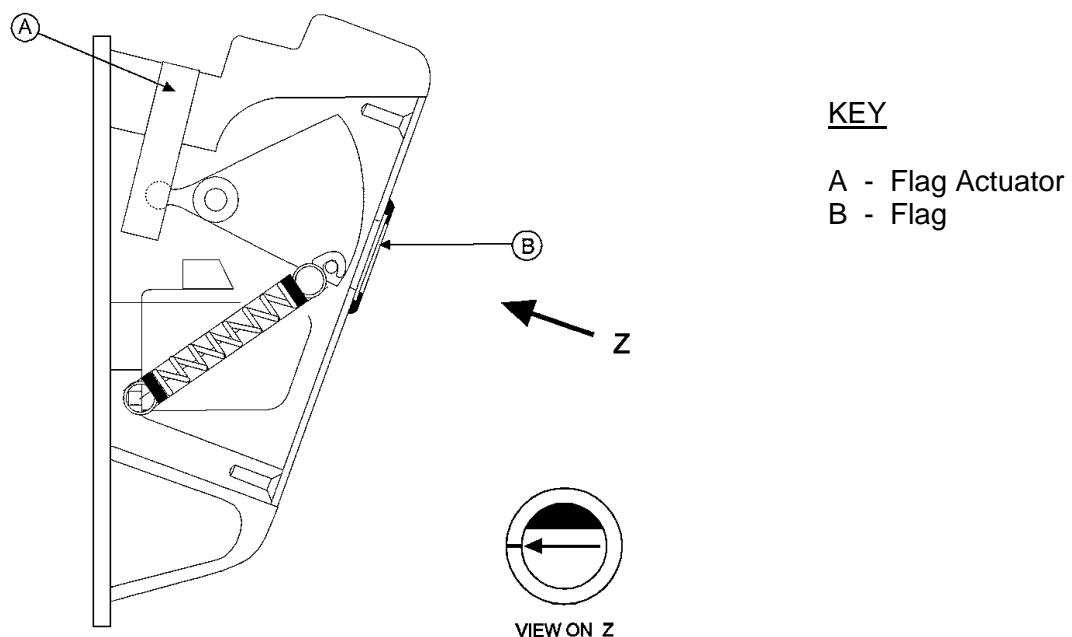

Figure 1: Striker Plate Flag Unit
32. At each door check that the arrow on the flag is aligned with the line on the aperture ring when locked. (A tolerance of ± 1 mm is permitted when viewing the arrow at 90°, see Figure 1).